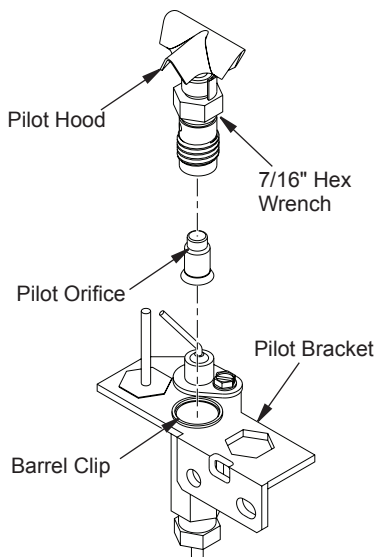

Figure 10 - Converting Pilot Orifice
1. Remove the pilot hood assembly from barrel using a 7/16" open end wrench (see Figure 10).